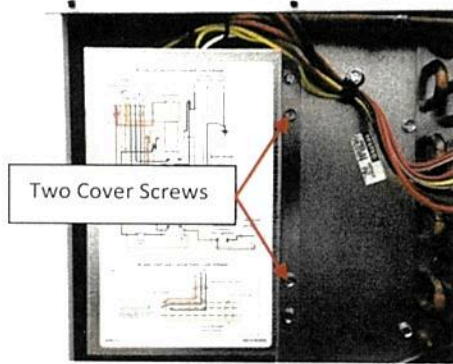

Figure 2a
Step 2 – Remove the two electrical box cover screws (Figure 2a) and then remove the electrical cover (Figure 2b).